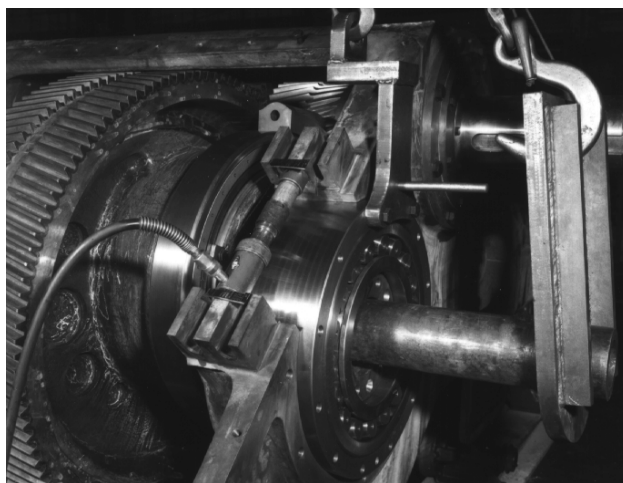
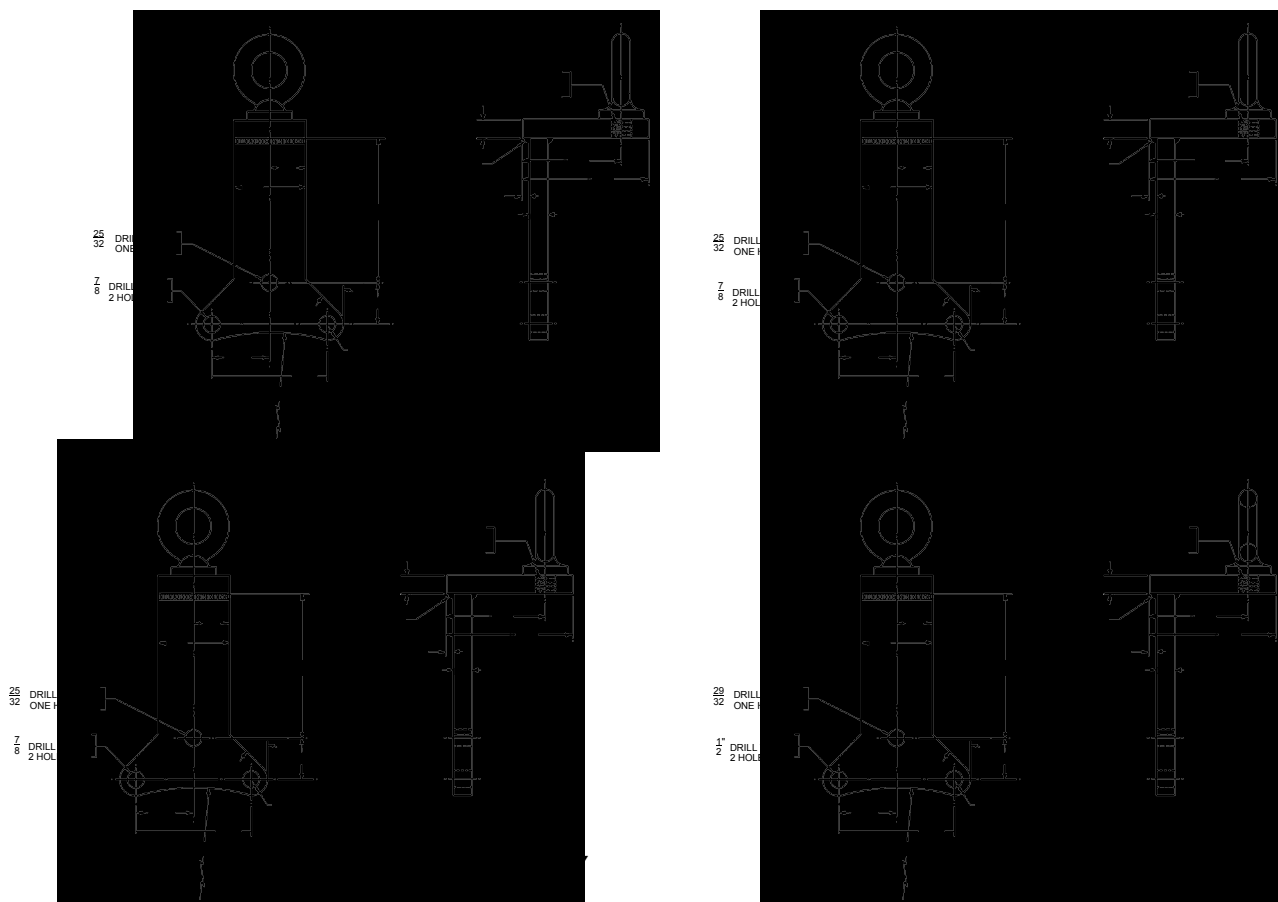

FIGURE 15 – ECCENTRIC GEAR ASSEMBLY SUPPORT
FIGURE 16 – MAIN BEARING CARTRIDGE LIFTING & LOCATING DEVICES
6. Spread frame slot approximately 1/64" (.4 mm) by means of hydraulic or screw jacks (FIGURE 15, page 19). **Be sure to protect faces of frame slots against damage from jacks. This is important.**
7. Support eccentric and gear assembly in original position by means of a sling, hoist or blocks (FIGURE 15, page 19).
10. With bearing loose on the shaft taper, the retainer plates should be removed. They are heavy, so suitable provisions must be provided to handle them. Lifting devices shown in FIGURE 16, page 19, are useful in disassembly as well as during assembly.
15. Rotate bearing cartridges in frame so holes for bearing end plate cap screws line up. The lifting device shown in FIGURE 15 and FIGURE 16, page 19, will automatically align holes.